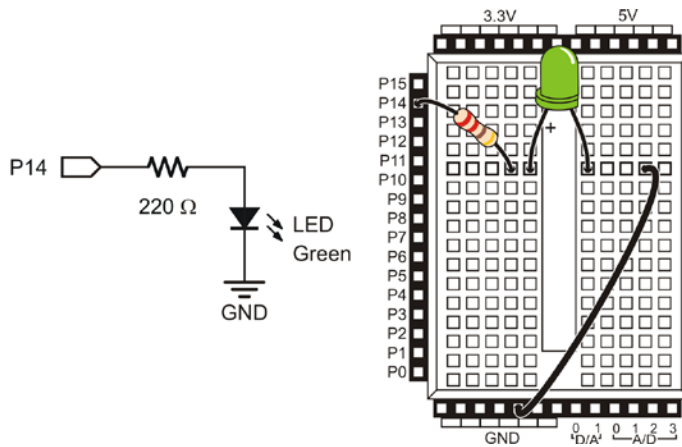

Figure 2-11
The LED circuit shown in Figure 2-11 is wired almost the same as the circuit in the previous exercise. The difference is that the resistor's lead that was manually switched between 3.3V and GND is now connected to a Propeller I/O pin.
- Modify your circuit from Activity #1 so that it matches Figure 2-11.